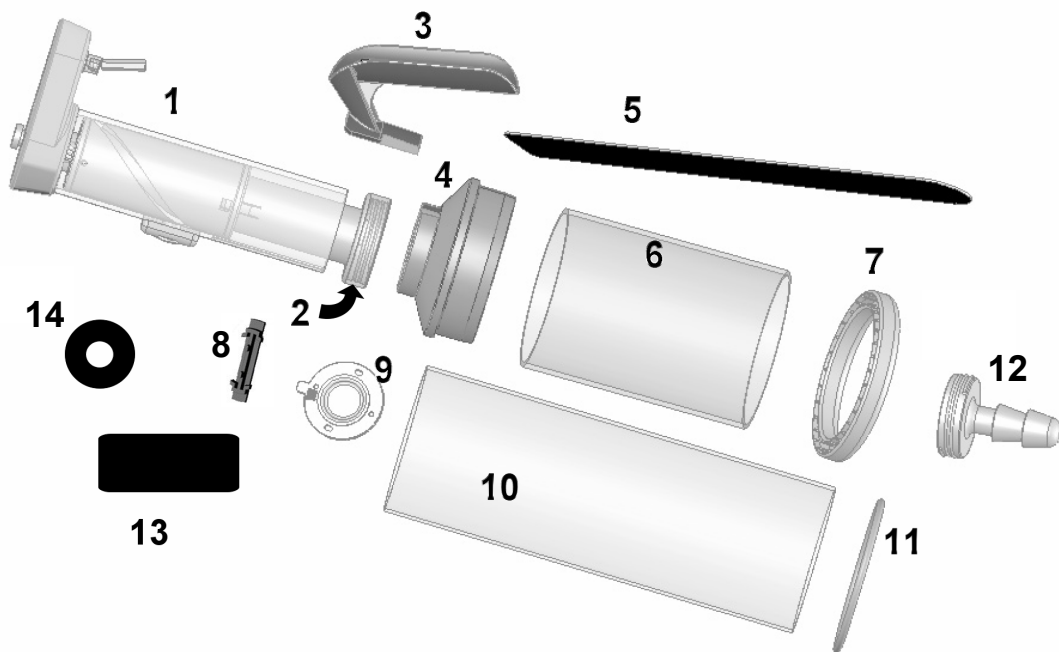

Figure 1: Major components list
In this manual we will refer to the major components shown below in Figure 1. The complete parts list is included on the back of this manual.
The following list identifies the numbered components in Figure 1:
The following table shows how the parts shown in Figure 1 are used for the male and female configurations.
Open the box and confirm that all the components illustrated in Figure 1 are present. Also inspect all components for any sharp edges or burs. All edges should be smooth and unable to cut you or catch on any clothing. If any pieces are missing, broken or sharp, contact Toys In Motion for instructions on how to receive a replacement.
1. Remove components from the box and identify them using the table in Figure 1 above.